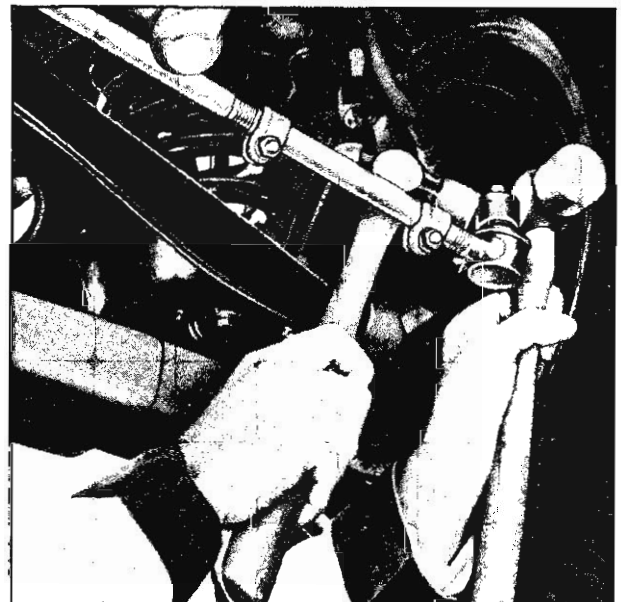

Fig. 56—Freeing Ball Stud
- To remove outer ball stud, tap on steering arm at tie rod end with a hammer while using a heavy hammer or similar tool as a backing (fig. 56). If necessary pull downward on tie rod to remove from steering arm.